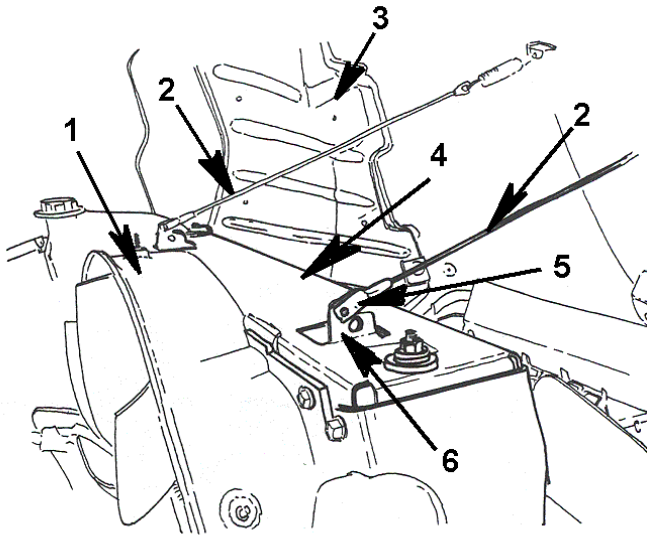

Figure 26 Radiator Top Frame And Cable Stop Assemblies
6. With the grille / shroud assembly removed and the hood tilted, locate the hood cable stops and attachment brackets on each side of the radiator top frame (Figure 26, Item 2 and 6) .